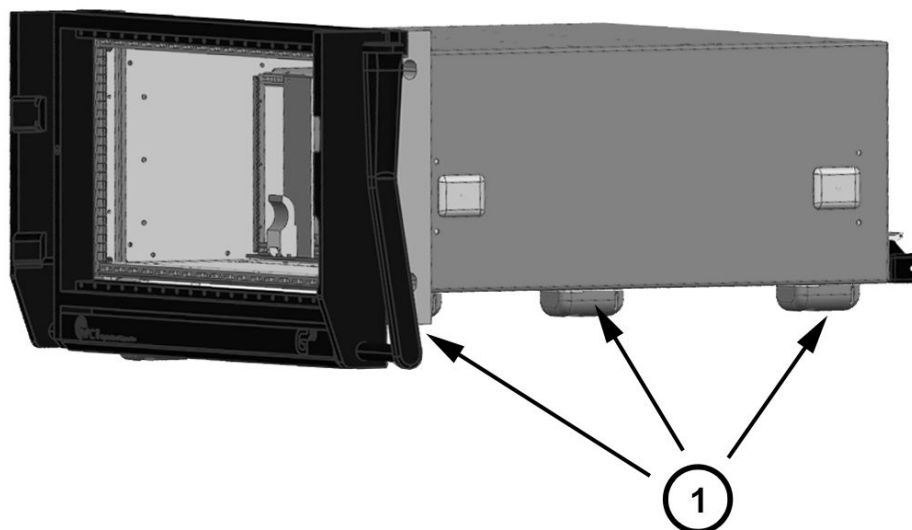

Figure 5-13: R&S TSVP with platform and mounting rail
1. Unscrew 4x screws (Figure 5-13, item 1).